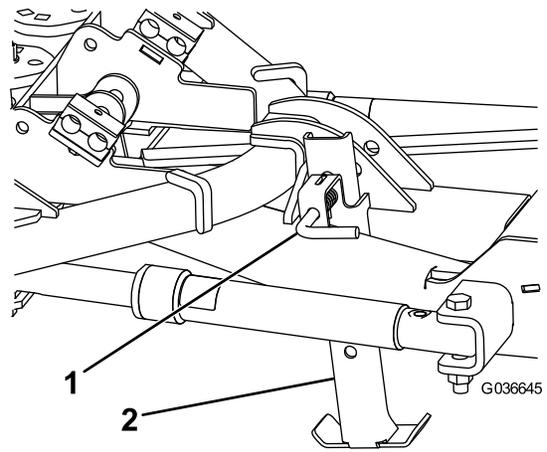

Figure 2
2. Pull the kickstand spring pin and insert the kickstand into the mounting bracket, then release the spring pin to lock the kickstand in place (Figure 2).